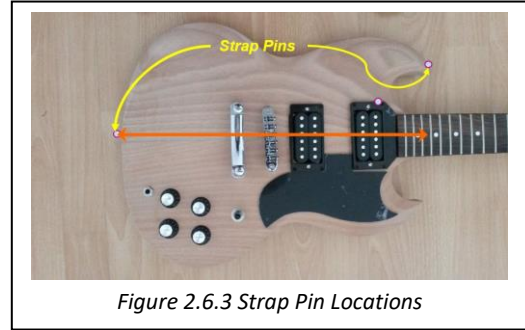

Figure 2.6.3 Strap Pin Locations
| 2.6.3 | Check Strap Pins (Figure 2.6.3) | - 5 - |
2.6.3 Check Strap Pins (Figure 2.6.3)
1. Mark the rear Strap Pin hole so that it is aligned with the center of the neck & pickups (Figure 2.6.3), and the top Pin on the most forward part of the body above the Neck;